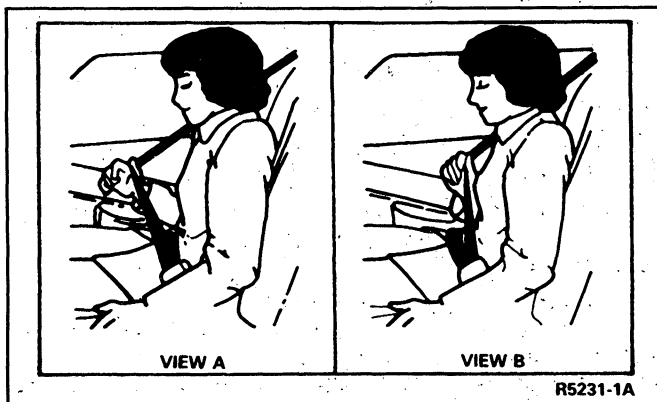

FIG. 2 Seat Belt Adjustment
1. Pull the shoulder belt outward 10-13 cm (4-5 inches), then release it and allow belt to fully retract. Repeat procedure if belt is not snug to the chest (Fig. 2, View A).
2. Now the belt tension may be adjusted by pulling down slightly on the shoulder belt and releasing. The least amount of slack needed to relieve tension, but not more than 25 mm (1.0 inch) should be pulled out when using the comfort regulator system (Fig. 2, View B).